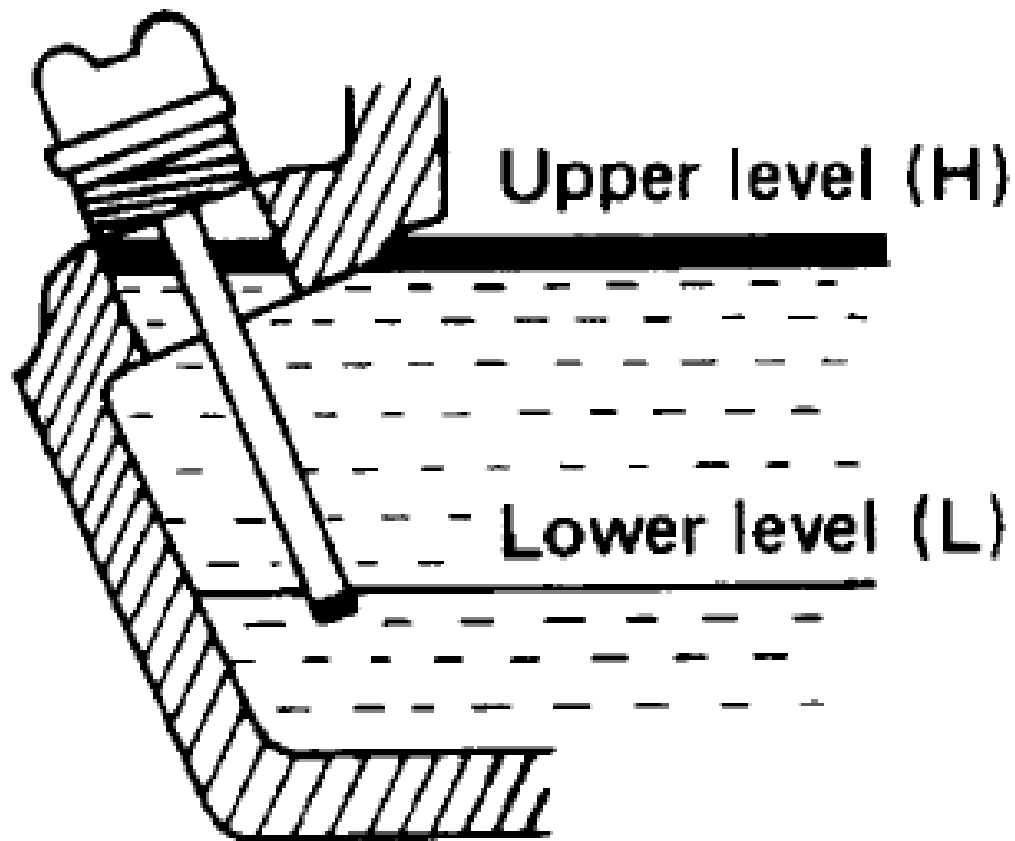

Figure 551-88L-2048_02
(1) Remove engine cap with lube oil gauge.
(2) Fill engine with oil to the mouth of the filler port, (refer to Figure 551-88L-2048_02).